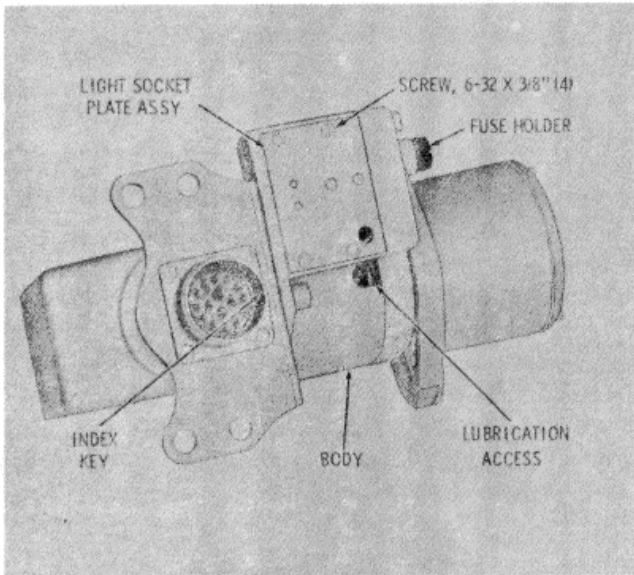
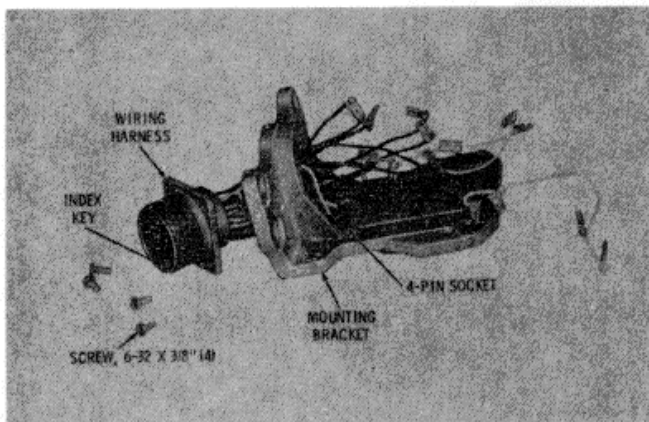

Figure 15-101. Shift Tower Assembly -Bottom View
Figure 15-109. Mounting Bracket and Switch Wiring Harness
1. Remove four screws that retain the light socket plate assembly (Figure 15-101).
2. Install a 1-1/2 inch (38.1 mm) O-ring 29 (B, Foldout 12) over the wires and onto the shoulder of the main wiring harness 32. Insert the wires through the bottom of the mounting bracket (Figure 15-109). Push the sixteen-pin connector into the mounting bracket, with the index key toward the flat side of the mounting bracket (Figure 15-101). Retain the connector with four 6-32 x 3/8 inch screws.
24. Remove the four screws that retain the wiring harness (Figure 15-109). Remove the wiring harness from the mounting bracket.
1. If the four-pin socket (female) was removed from the mounting bracket install a new socket 36 (B, Foldout 12). Refer to Figure 15-109. Push the socket into the flat side of the mounting bracket until it is flush with the adjacent area. Note the projection on the socket body that indexes with a notch in the mounting bracket.